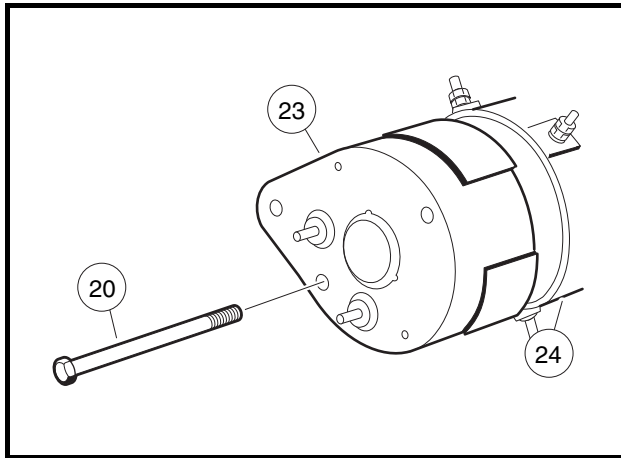

Figure 12-16 Commutator End Cover
2. Remove the two bolts (20) and pull commutator end cover (23) free of starter/generator housing (24) (Figure 12-16, Page 12-12).
2. Install the commutator end cover (23) onto the armature shaft. Orient the commutator end cover with the field coil housing as shown. Install two M5 x 20 mm bolts (20) and tighten to 60 in-lb (6.8 N·m) (**Figure 12-16, Page 12-12**).
6. Install the commutator end cover (23) onto the armature shaft. Use the tapped mounting holes to align housing to the cover, rotate and orient as shown. Install the two M6 x 180 mm bolts (20), and tighten to 60 in-lb (6.8 N·m) (**Figure 12-16, Page 12-12**).